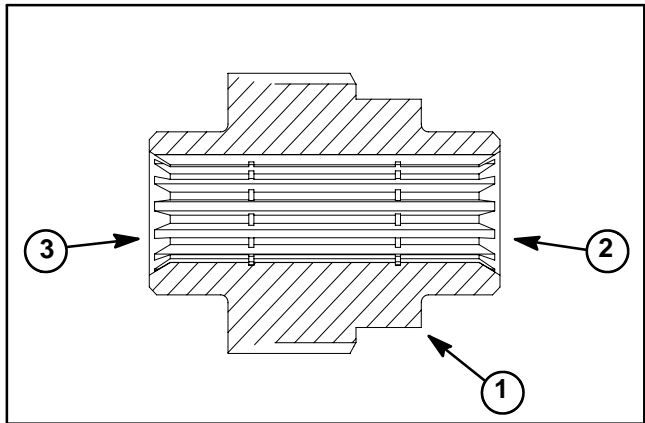

Figure 4
1. Install splined brake shaft (item 3) into brake assembly. **NOTE:** The stepped end of the splined brake shaft must be aligned toward the hydraulic wheel motor (Fig. 4).